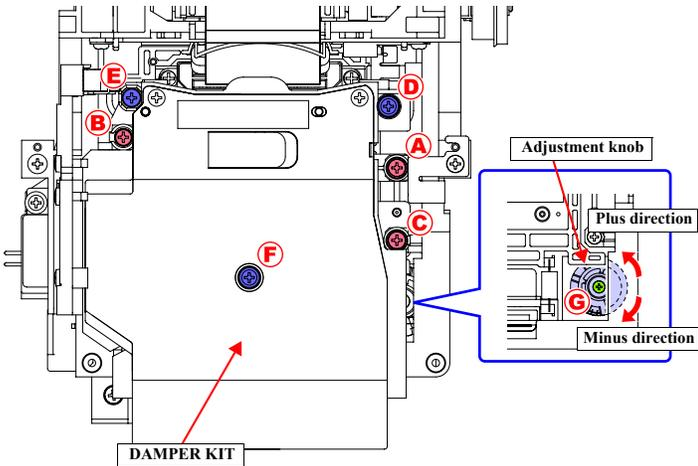

Figure 4-47. Correcting the Head Inclination
7. Turn the adjustment knob to correct the head inclination. See **Figure 4-47** for which direction to move the knob.